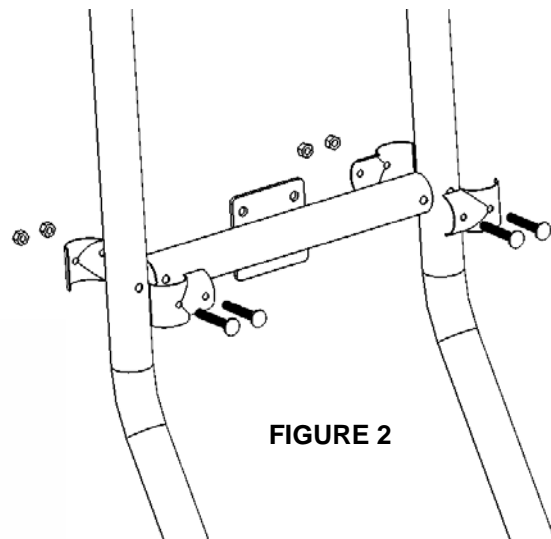

FIGURE 2
1. Begin by locating the basketball posts and the cross brace as shown in **FIGURE 1**. Attach the cross brace to the posts with the stainless steel split tees and hardware as shown in **FIGURE 2**.